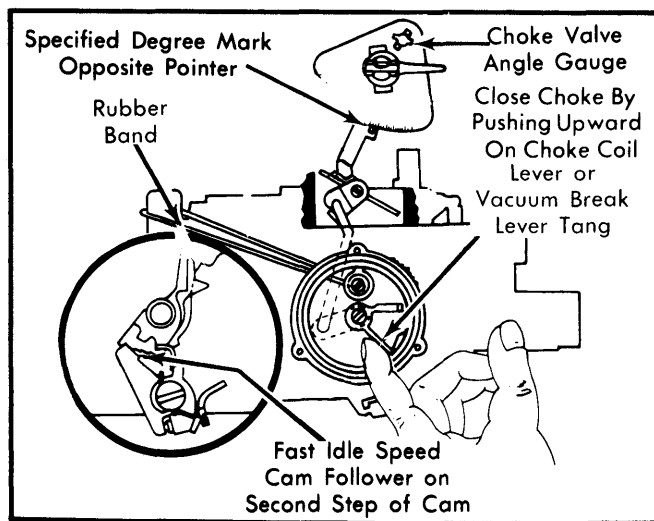

Fig. 6 Adjusting Choke Rod (Fast Idle Cam)
- 1) Place fast idle speed cam follower on second step of fast idle cam against shoulder of highest step. See Fig. 6.